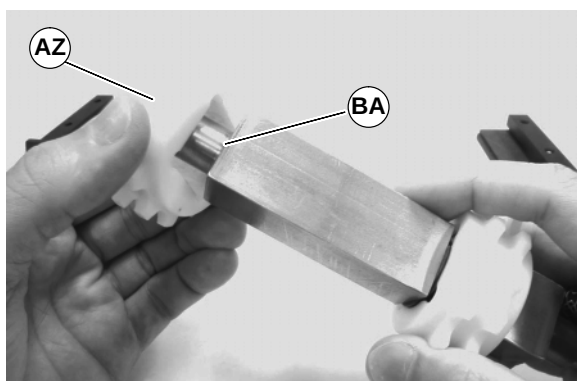

Figure 33
6. Slide free moving sprocket(s) (AZ of Figure 33) off the end of pulley (BA).